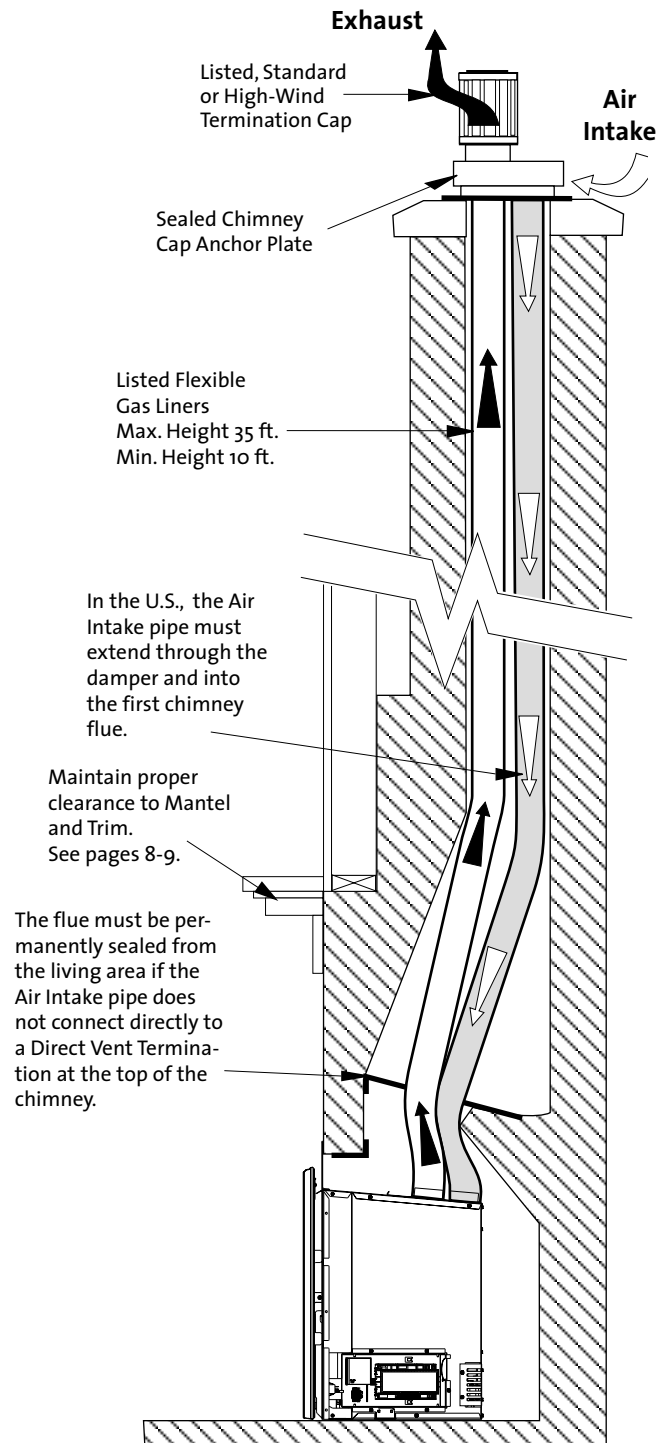

Figure 7. Masonry Fireplace Venting Configuration.
- The minimum height of termination cap from the top of the unit shall be no less than 10 ft.(3.05 m), and the maximum height shall be no more than 35 ft. (10.67 m). See figures 7 and 8.
This appliance must be vented through the chimney by a pair of 3 inch flexible aluminum liners listed for use with gas appliances. One duct is attached to the exhaust port on the top of the unit and will carry the exhaust gases to the outside of the house. This exhaust liner must run the full length of the chimney and be directly connected to the chimney termination cap. See figure 7 and 8.
The other 3 inch liner will be attached to the air intake port and will provide fresh air for combustion to the unit. This liner must extend through the damper area of the fireplace and at least into the first tile liner of the chimney. (U.S. ONLY). This liner can also extend the full length of the chimney and connect to the termination cap. See NOTICE below. See also figures 7 and 8.
If the intake flex does not extend the full length of the chimney and connect to the unit and the termination cap - **A METAL BLOCK OFF PLATE MUST BE CONSTRUCTED AND INSTALLED ABOVE THE UNIT BELOW THE END OF THE INTAKE DUCT** (normally at the damper area). See figure 7.